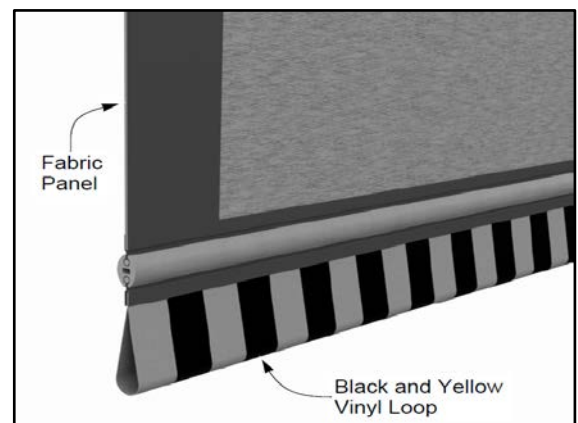

Figure 63
2. Inspect the sealed bladder inside the bottom vinyl loop of the door panel. Replace if the loop is damaged or leaking sand. (See Figure 63.)